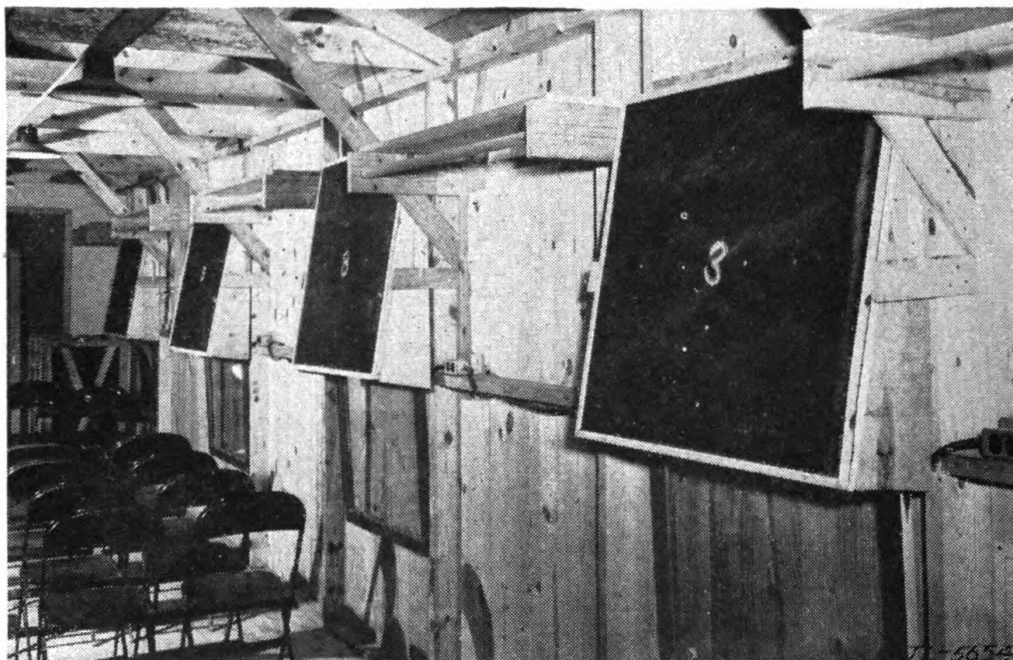

FIGURE 43.—Tar paper shades.
(2) When rooms are not permanently set up for screening, detachable frames with shades of tar paper or other opaque material may be made. (See figs. 43, 44, and 45.) A cleat and slot are used for attaching shade to window frame. Opening at the bottom of a shade provides ventilation.